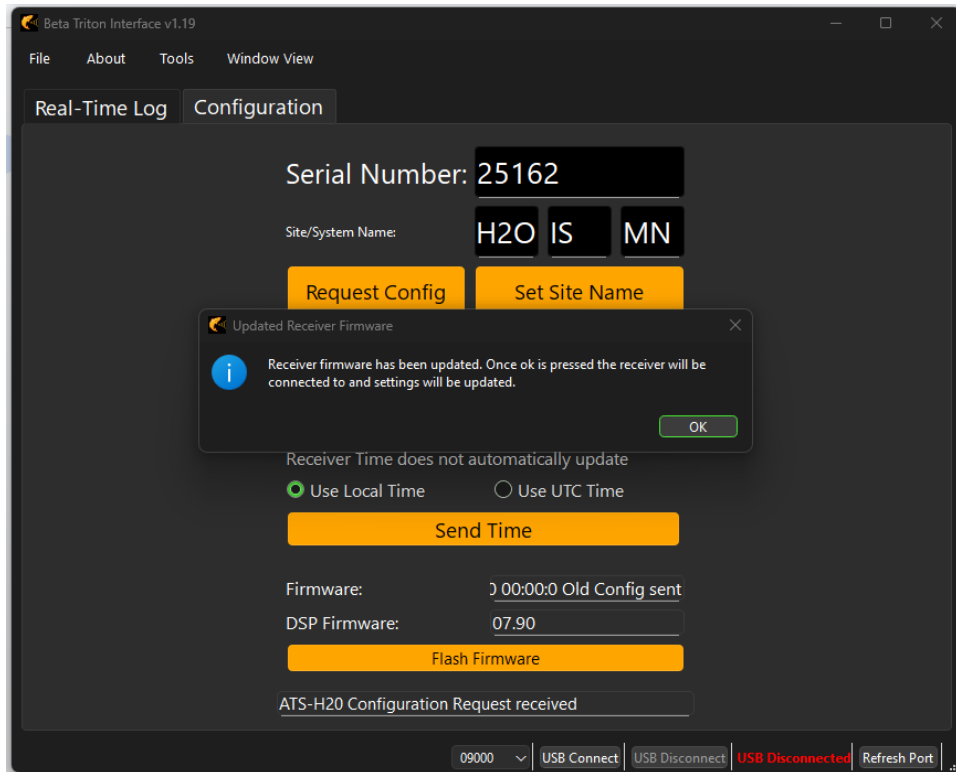
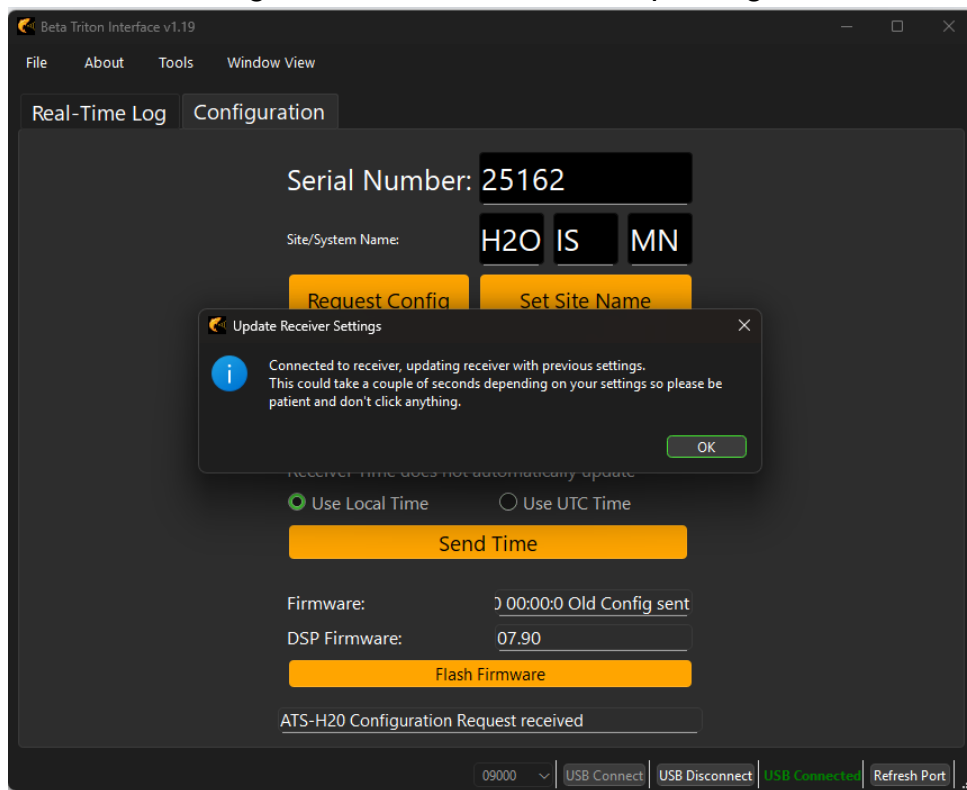

Figure 8 Receiver finished updating
Figure 9 Software reconnected and is about to flash settings
Step 5) After the firmware upload process finishes the Triton Interface will attempt to reconnect to the receiver (Figure 8) and maintain some settings (Figure 9) that are overwritten during the firmware upload process. These settings are the serial number, sitename, calibration constants, etc. This process can vary in time taken depending on the settings and what firmware version was on the receiver beforehand. **Make sure to wait ~15 seconds after the *Update Receiver Settings* popup.**